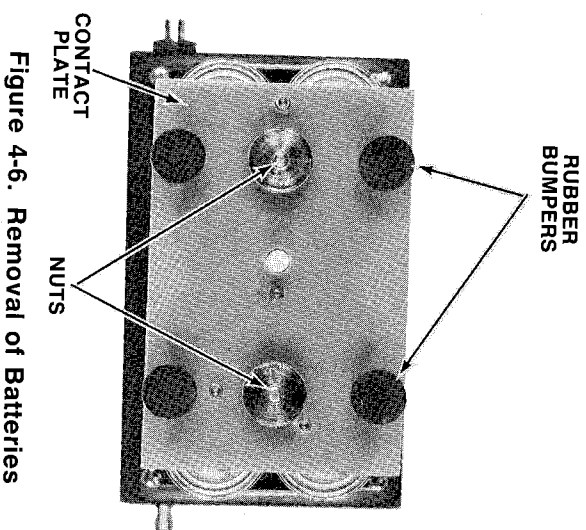

Figure 4-6. Removal of Batteries
4. Remove two nuts, Figure 4-6, and lift off contact plate.